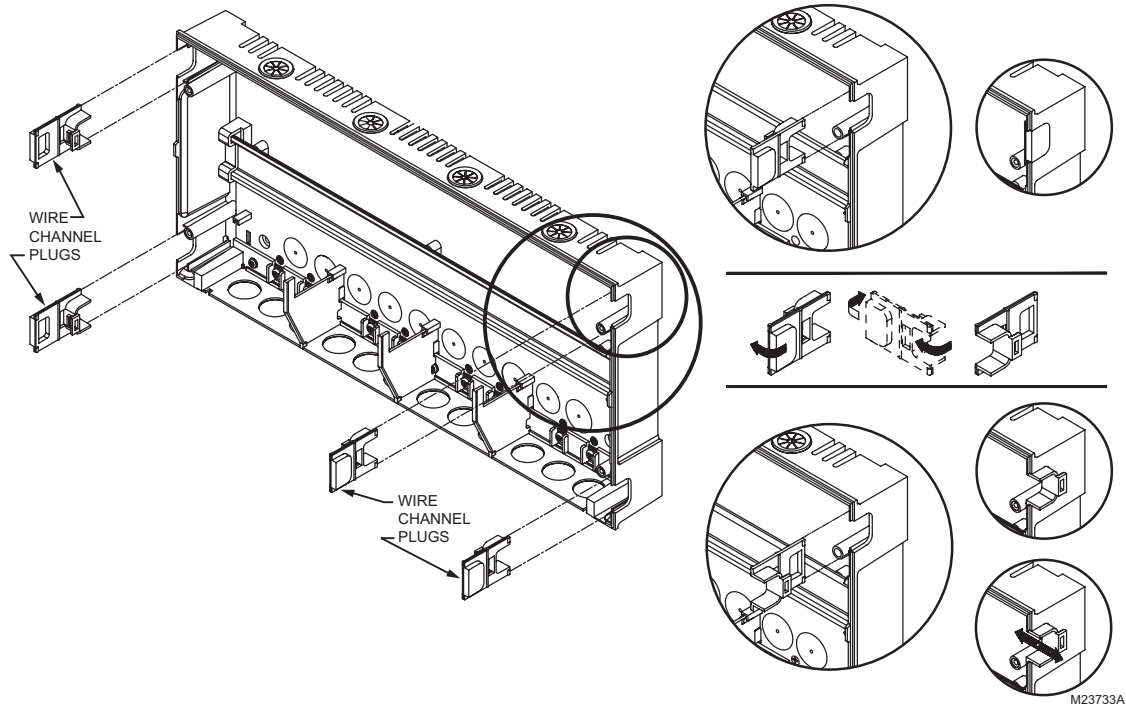

Fig. 3. Orientation of wire channel plugs for creating pass-through wire channel and for joining Control Panel to Expansion Zoning Panels.
1. Remove wire channel plugs from the AQ251 Control Panel and any Expansion Zoning Panels (see Fig. 3).
3. Reverse wire channel plugs and re-insert them into their slot, to form a wiring channel between the Control Panel and the Expansion Zoning Panel (see Fig. 3) and to connect the two panels together.